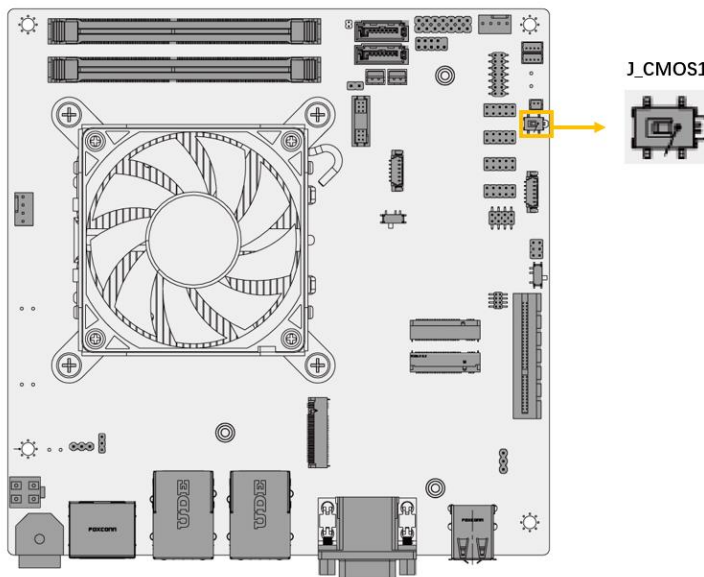

Figure 3-8: Clear CMOS Jumper Location
- CN Location:** See Figure 3-8